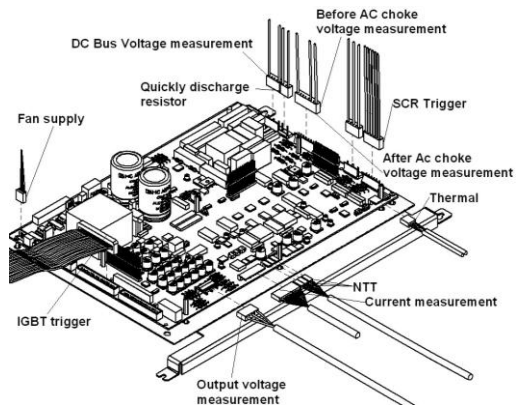

Figure 4.5. Disconnection of all Power Board wires..
- 2) Place the new Control Board on the hexagonal spacers **M3x20**, (*figure 4.5*)
Follow figure 4.5 while reading these instructions: